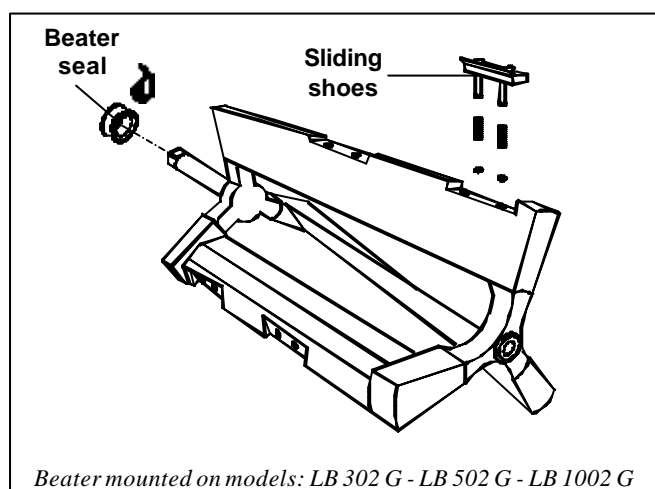

Figure 20
- Completely assemble the sliding shoes (ref. Fig. 20).
- Lubricate the beater lip seal with the lubricant included in the Start-Up Kit and mount it (ref Fig. 20).